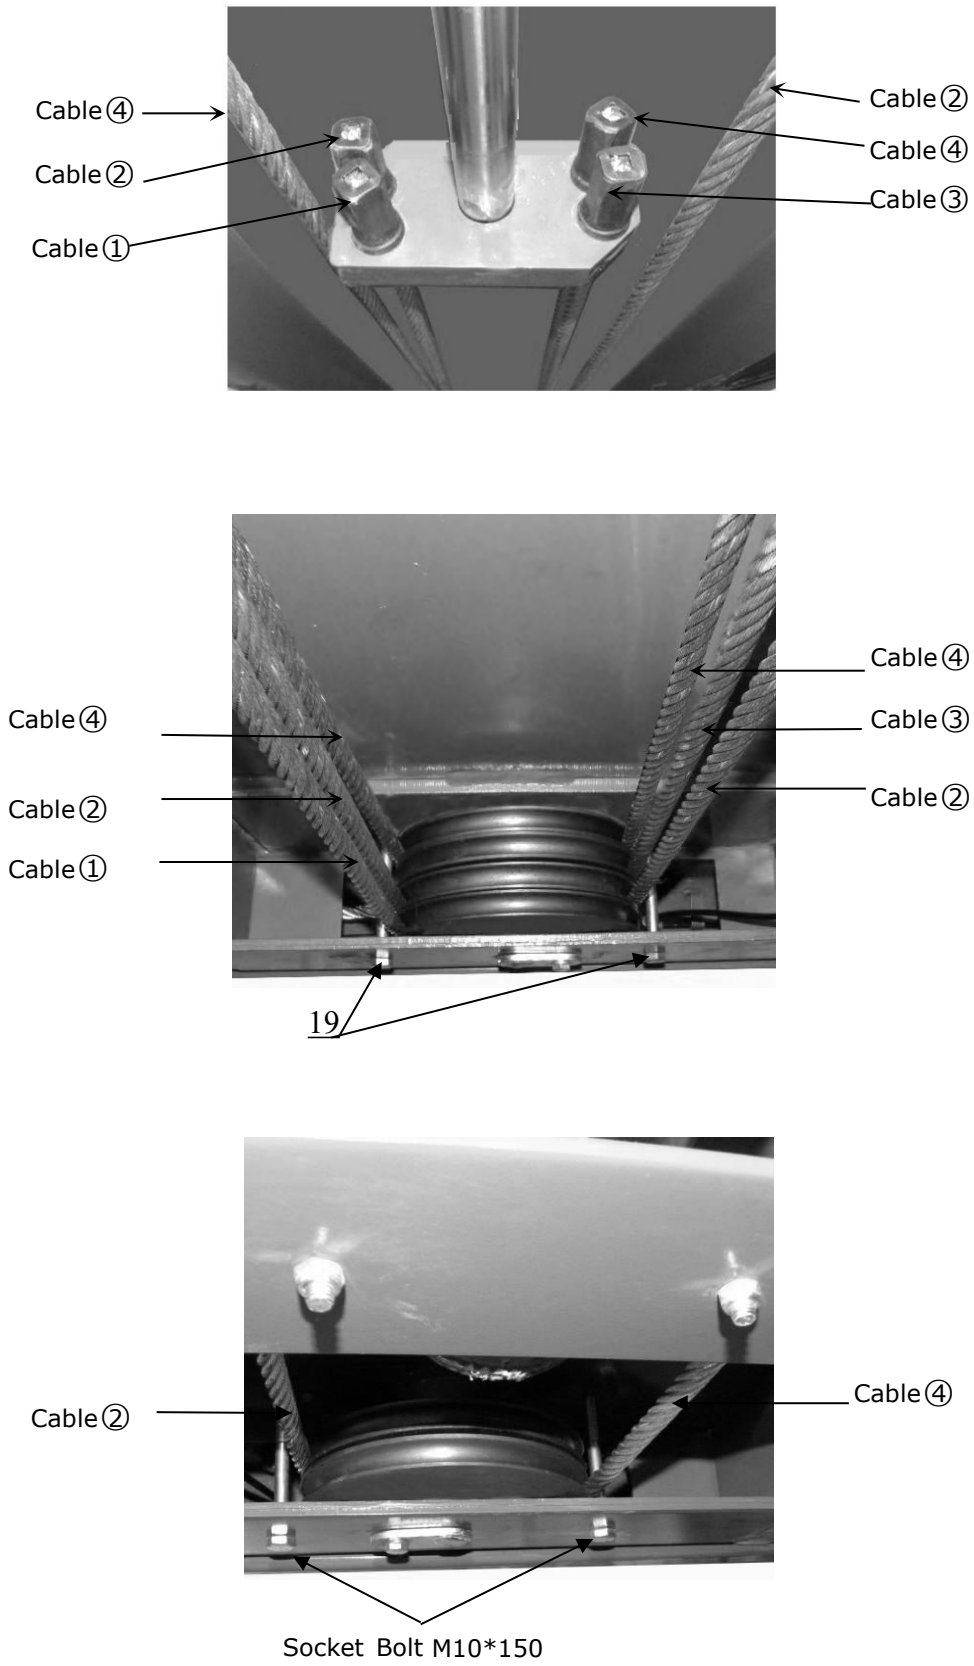

Fig.26
3. Illustration for platform cables (See Fig. 26).